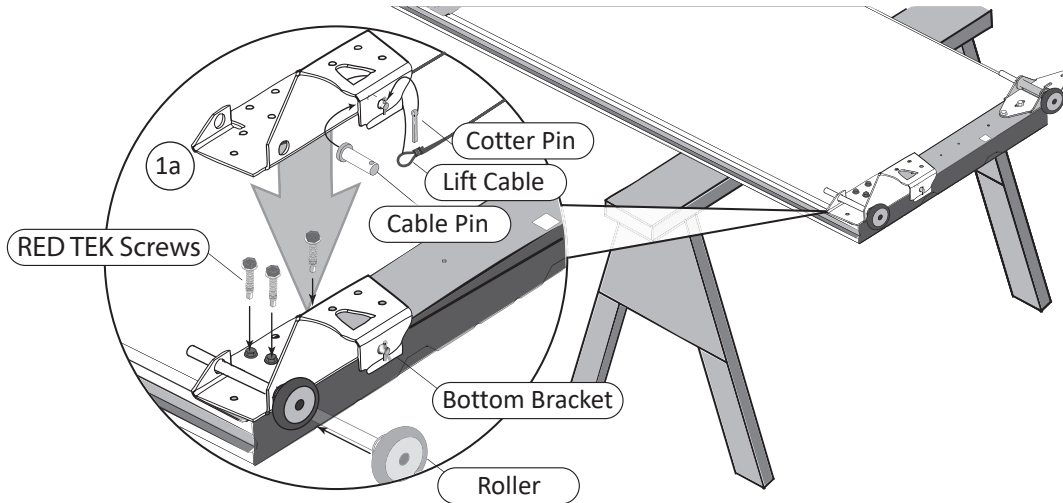

Figure 1
Place the bottom section face down on a sturdy pair of padded saw horses (Figure 1). Insert the Cable Pin into the hole in the Bottom Bracket, from the inside. Then insert the looped end of the Lift Cable onto the Cable Pin. Push the Cable Pin through the round hole from the inside (Figure 1a). With the Lift Cable securely installed, slide the Cotter Pin through the hole in the Cable Pin, then bend out one leg of the Cotter Pin. Slide the right Bottom Bracket flush to the bottom of the right end stile. Fasten the bracket with (3) 1/4-20 x 1" RED TEK Screws. Insert the Long Stem Roller into the Bottom Bracket.